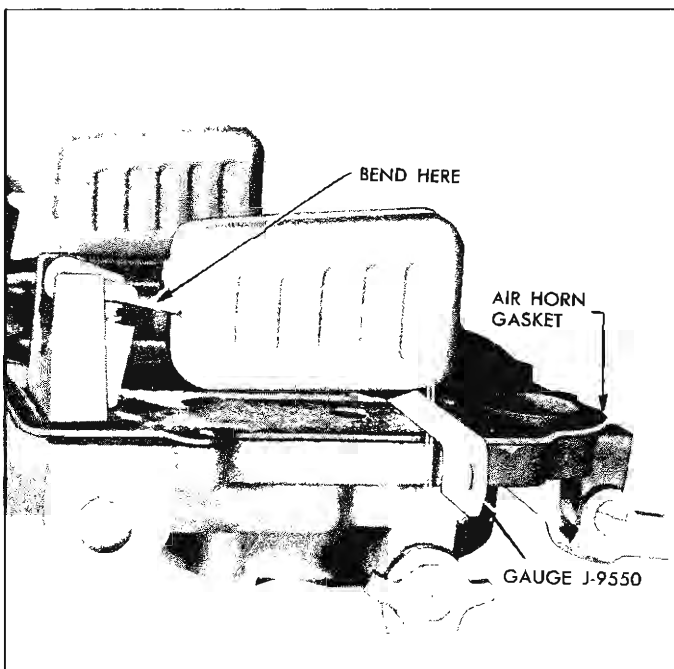

Fig. 16—Adjusting Float Level
6. Adjust Float Level. With air horn inverted and air horn gasket in place, check clearance between each float (at outer end) and air horn gasket using Float Gauge J-9550 chain set or a 7/32" drill (fig. 16) - (5/16" on 327 carburetor). To adjust, bend float lever. After any adjustment, recheck float alignment.